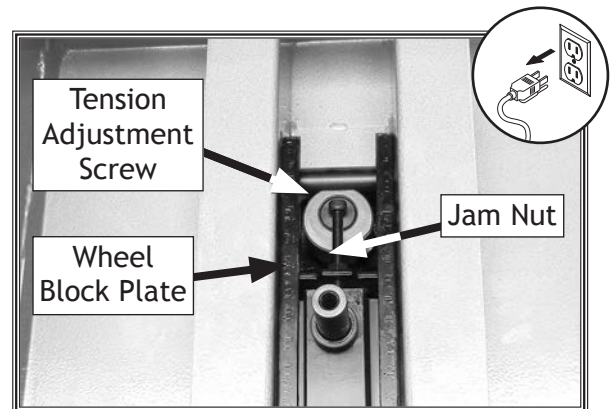

Figure 91. Location of tension adjustment screw, jam nut, and wheel block plate.
4. Loosen jam nut on tension adjustment screw, then loosen screw 7-10 turns (see **Figure 91**).
6. Tighten tension adjustment screw (see **Figure 91**) until it contacts wheel block plate, then back it off 1-2 turns.